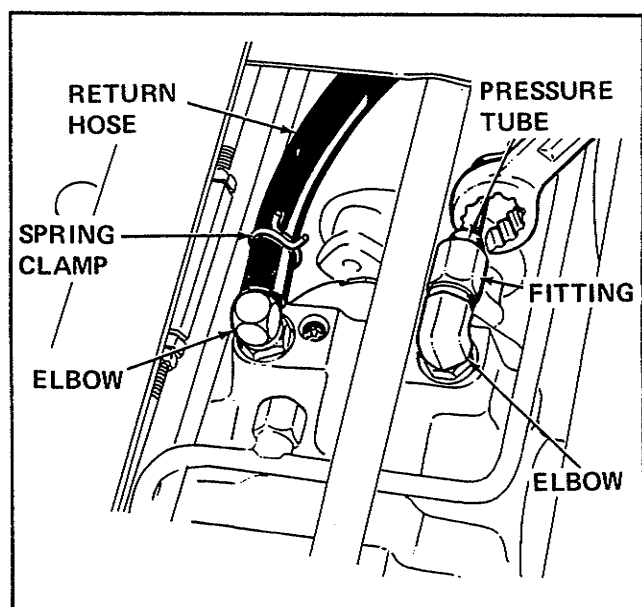

Figure 112. Disconnect Return Hose and Pressure Tube (Shown from Top)
6. Refer to Figure 112 and working from the bottom, disconnect pressure tube directly below the top drive shaft. This is the tubing between the hydrostatic unit and lift valve. Remove this tube.